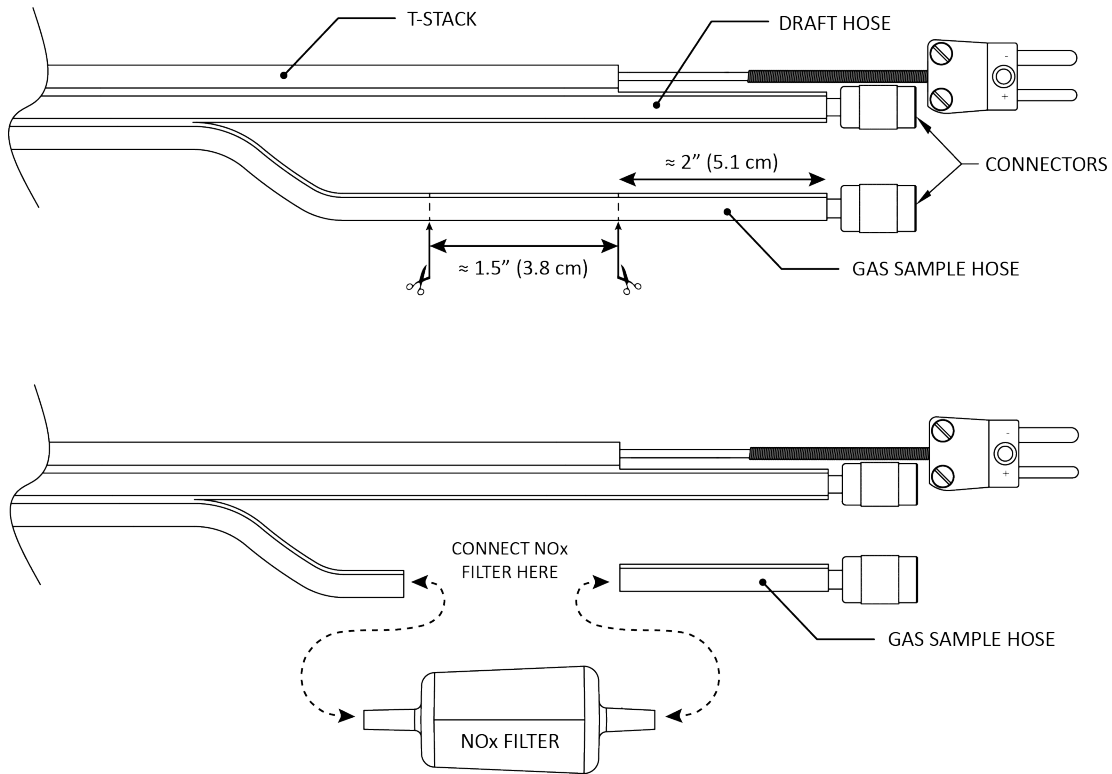
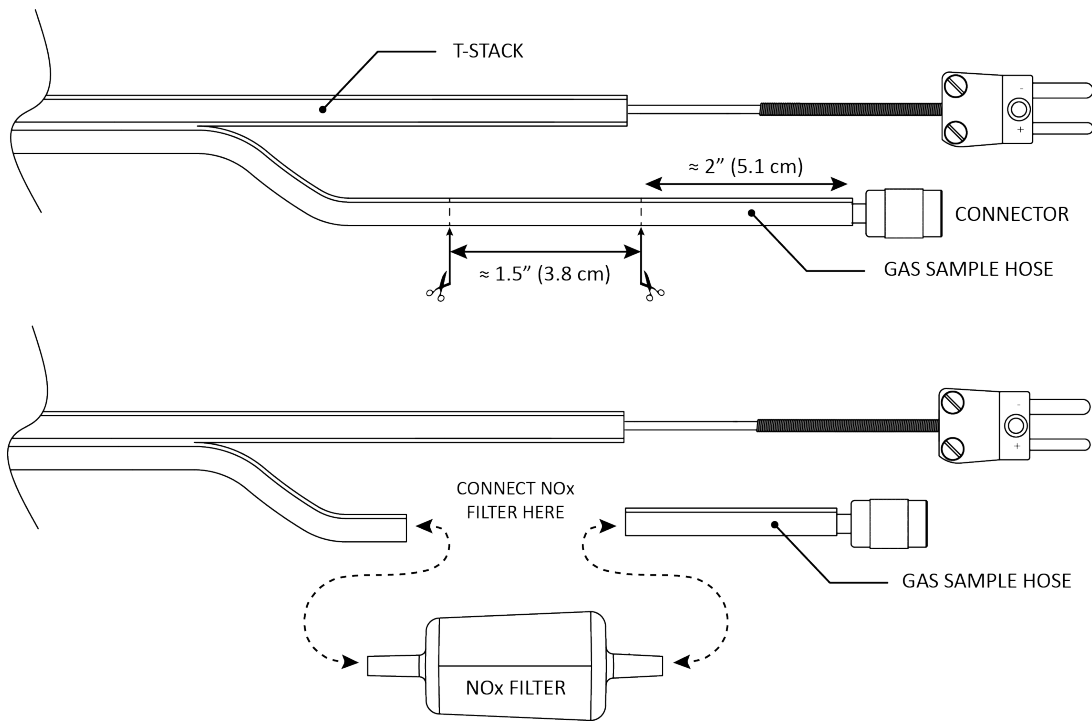
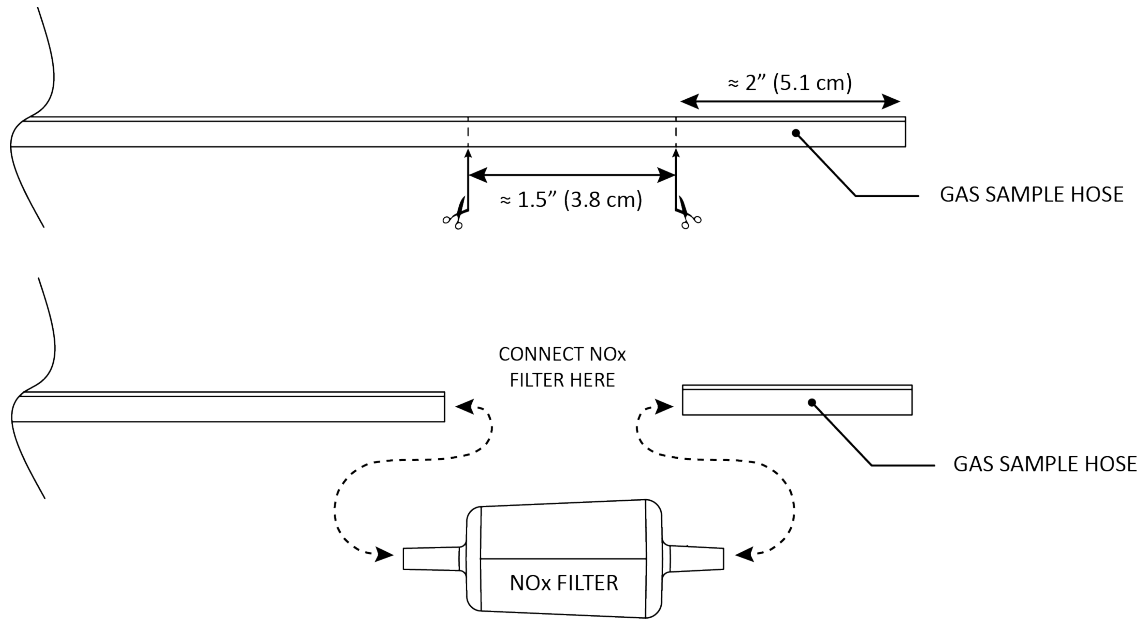

Figure 1. NOx Filter Placement Example 1 – Gas Sample Hose with Integrated Draft and T-Stack Hoses
Figure 2. NOx Filter Placement Example 2 – Gas Sample Hose with Integrated T-Stack Hose
Figure 3. NOx Filter Placement Example 3 – Basic Gas Sample Hose
Use the following procedure and Figures 1, 2, and 3 to insert the NO_x Filter in-line with the sampling system.
1. Locate	Locate the gas sample hose. Refer to Figure 1 for examples, or check the documentation associated with your gas monitoring instrument.
2. Separate	If the gas sample hose is connected to an additional parallel hose (e.g., draft hose or T-Stack hose), separate a portion of the gas sample hose (approximately 5" or 12.7 cm) from that parallel hose using scissors to carefully cut along the connective webbing. Be sure to cut ONLY the connective webbing between the hoses and not the hoses themselves. Refer to Figure 1 and Figure 2.
3. Remove	Using scissors, carefully cut and remove a piece of the gas sample tubing (approximately 1.5" or 3.8 cm in length) where the NO _x filter will be placed. Make the first cut approximately 2" (5.1 cm) from the end of the gas sample tubing. Cut the hose and place the 2" end piece (with metal connector if applicable) aside. Make another cut approximately 1.5" (3.8 cm) from the previous cut and discard the 1.5" (3.8 cm) section of hose. Refer to Figure 1, Figure 2, and Figure 3.